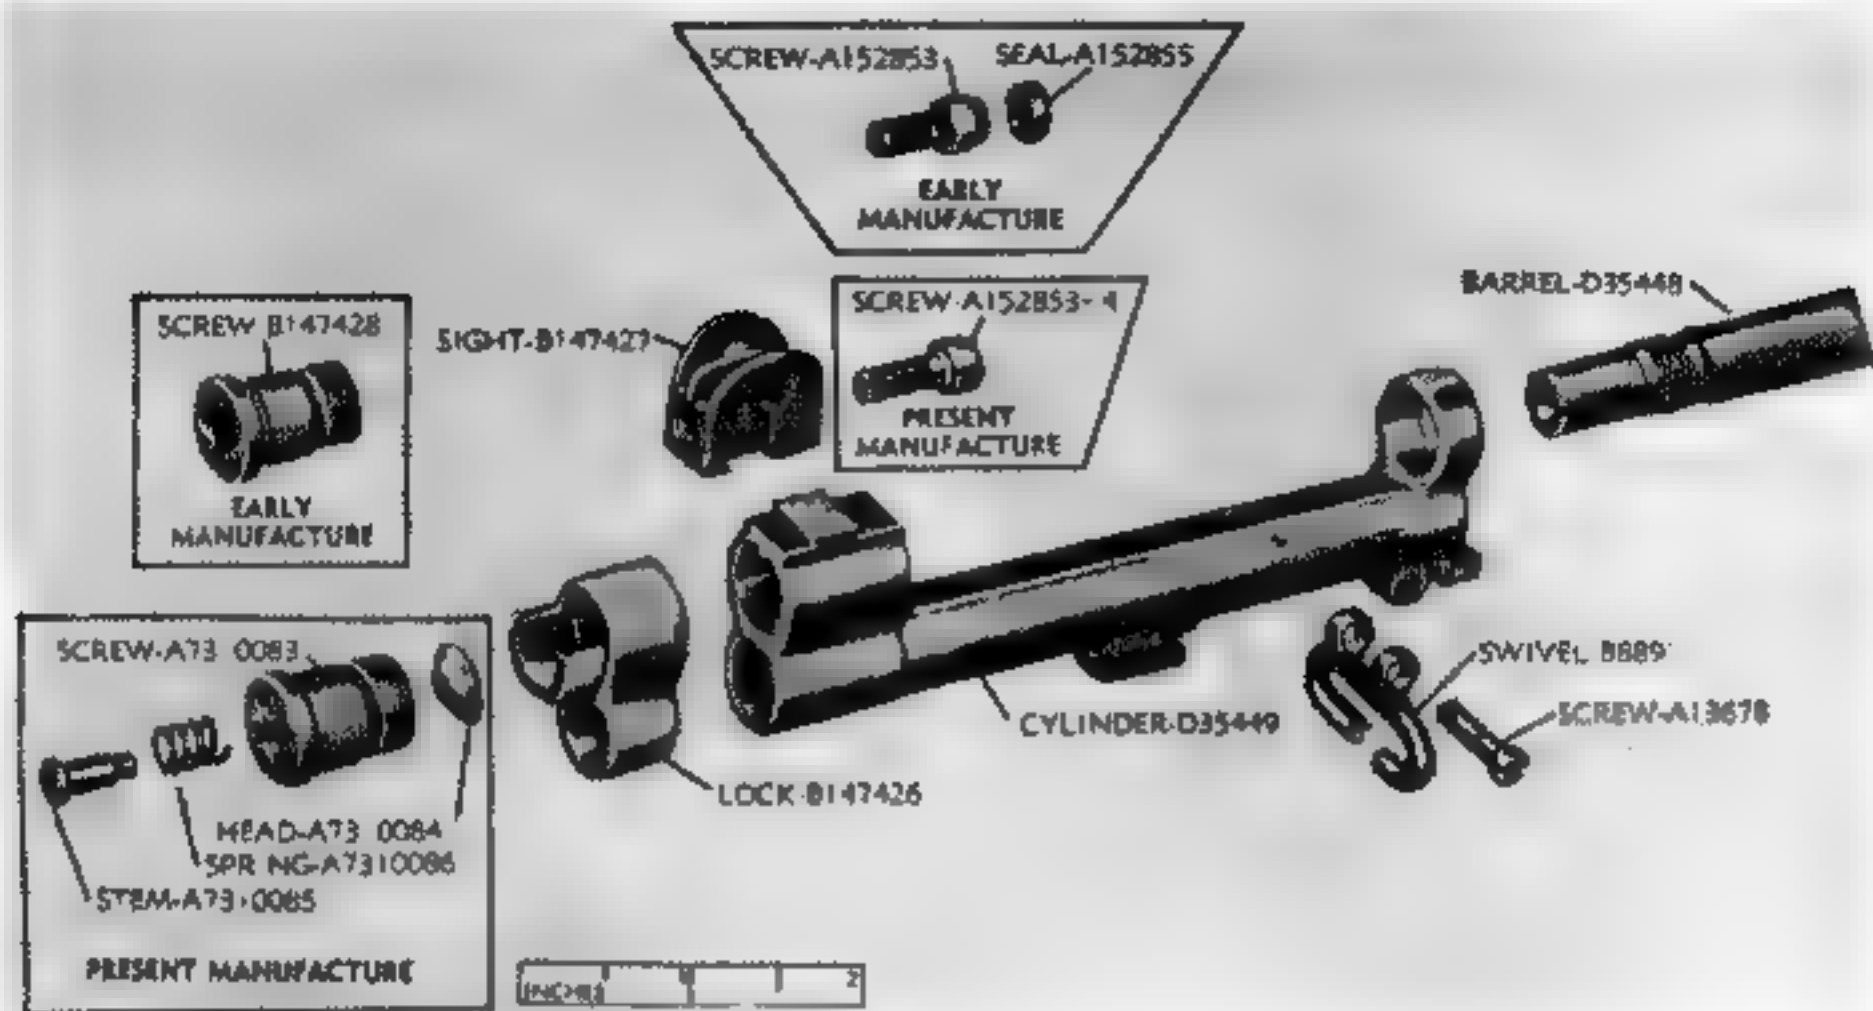

Fig. 125. Front sight and gas cylinder group parts.
51. Gas cylinder group (Fig. 125). Check the inside diameter of the gas cylinder with the gas cylinder gage. When the threads are cut in the gas cylinder the metal tends to flow and the inside diameter of the threaded section is reduced; therefore, this section must be slightly reamed to allow the gage to be inserted. Use the reamer on one end of the gage to perform this operation. Only the wire edge